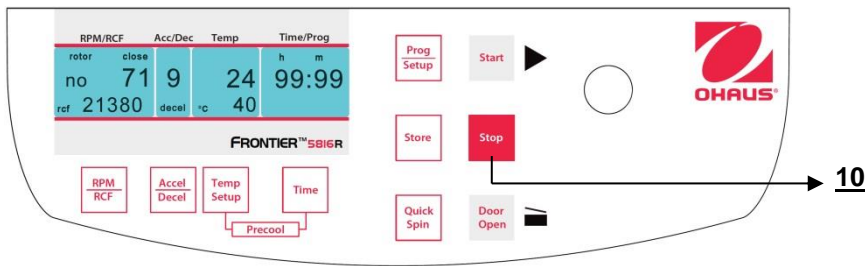

Figure. 27
By the "Stop" key (10) (See figure 27) you can interrupt the run at any time. After pressing the key the centrifuge decelerates with the respective pre-selected intensity down to stand still.